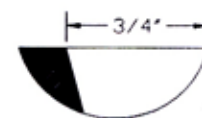
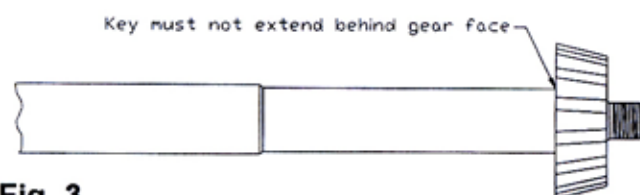

Fig. 1
Fig. 3
4) Refer to Fig. 1 and modify the Woodruff key by grinding or filing one end off until the key matches the drawing. Unlike the original installation - it is important that **the key must not protrude beyond the rear surface of the pinion gear.** See Fig. 3.
5) Temporarily fit the Woodruff key to the taper and "try" fit the pinion gear to the shaft to make certain that the key is not going to protrude behind the rear surface of the gear. See Fig. 3. Remove the gear and key after final modification and fitting.